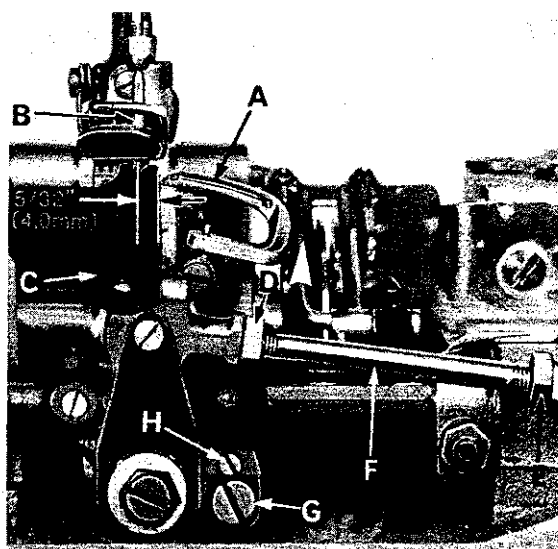
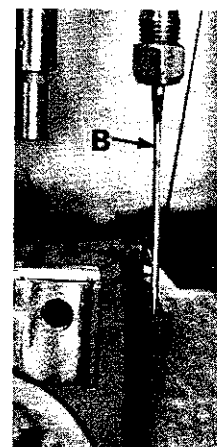

Fig. 6
Fig. 7
Insert a new needle, type and size specified. Looper gauge is 5/32 inch (4.0mm) which is the distance from point of looper (A, Fig. 6) to centerline of needle (B) when looper is at extreme right end of its travel. Looper gauge No. 21225-5/32 (C) is available for this setting. Adjustment can be made by loosening nut (D), (it has a left hand thread) and nut (E); turn connecting rod (F) as required to attain specified dimension. Hold connecting rod in position and tighten nut (E); then nut (D). NOTE: Be sure that the left ball joint is in a vertical position and does not bind after adjustment.
While turning handwheel in operating direction and the looper (A, Fig. 7) moves to the left, its point should be set to brush but not pick at rear of needle (B). Adjustment can be made by loosening screw (G, Fig. 6), turn stop screw (H) clockwise to move looper towards the rear, counterclockwise acts the reverse. It is suggested to hold looper towards the front while making this adjustment. Tighten screw (G) after adjustment has been made and recheck movement of looper.